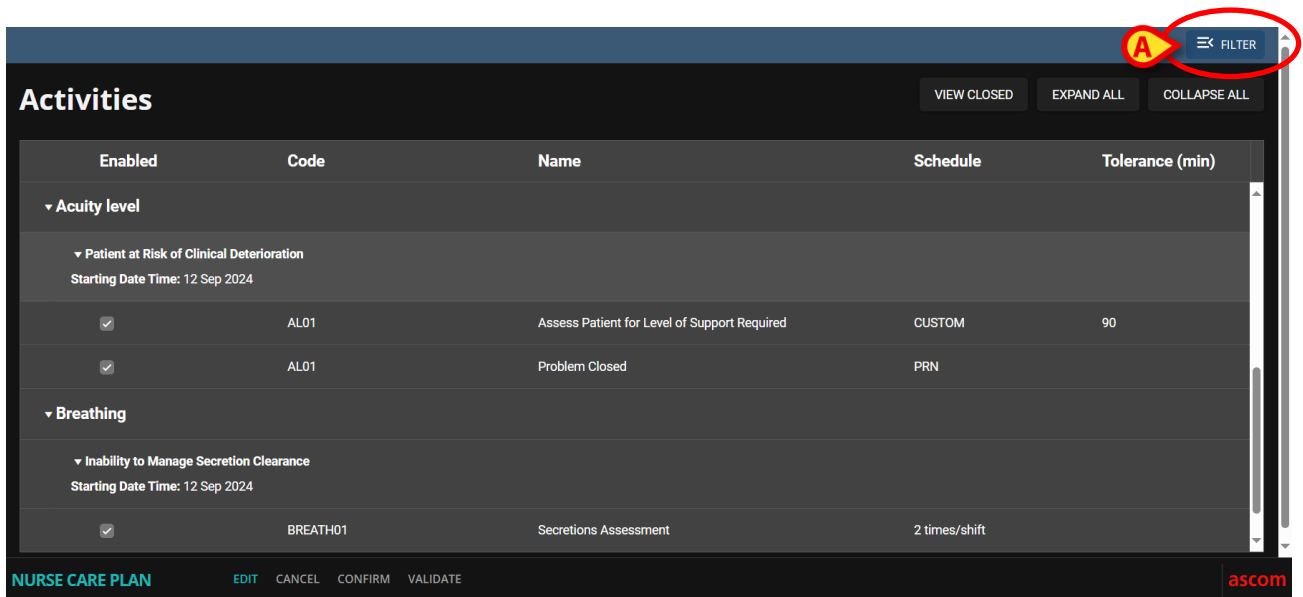

Fig 42
The Filter button (Fig 42 **A**) allows to display a chosen sub-set of activities.
- Click the **Filter** button (Fig 42 **A**).